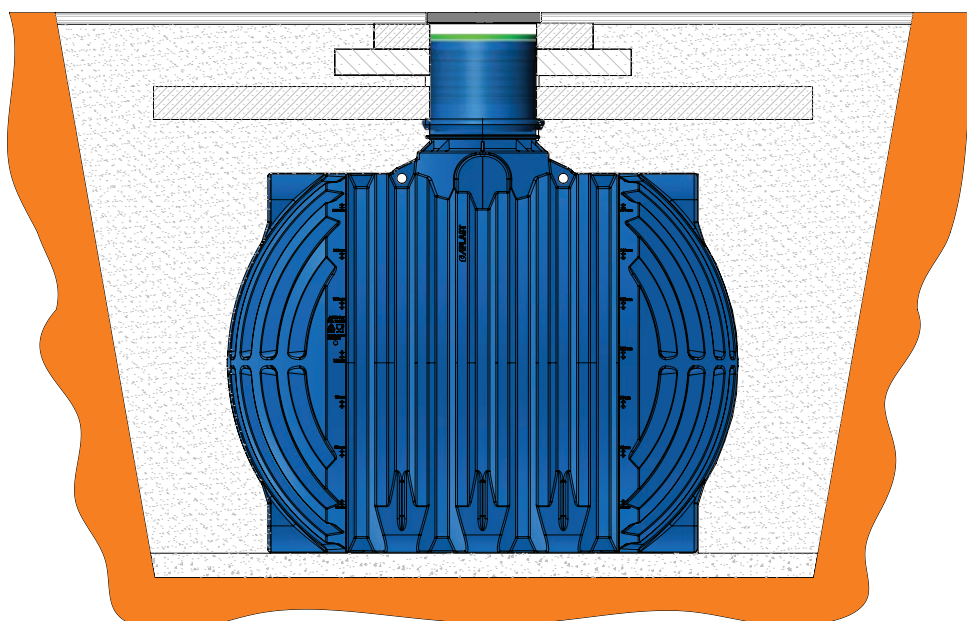

Figure 10: Example of installation under trafficable surfaces
When installing the product under trafficable surfaces for vehicles whose axle load exceeds 2.2 t, a reinforced-concrete (RC) slab must be constructed above the product. A product installed under trafficable surfaces must be properly protected, as it cannot withstand roadway dynamic loads on its own. The appropriate RC slab is determined by a structural analysis, as shown in Figure 10. The execution of the works must be defined by an authorized structural engineer. Technical support can be obtained from the manufacturer.